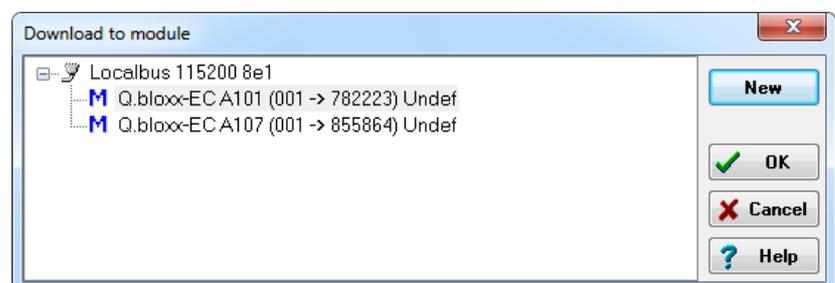

Fig. 6-14 Selecting the module for firmware update.
2. Select the required menu (Fig. 6-14) and click on **OK**.